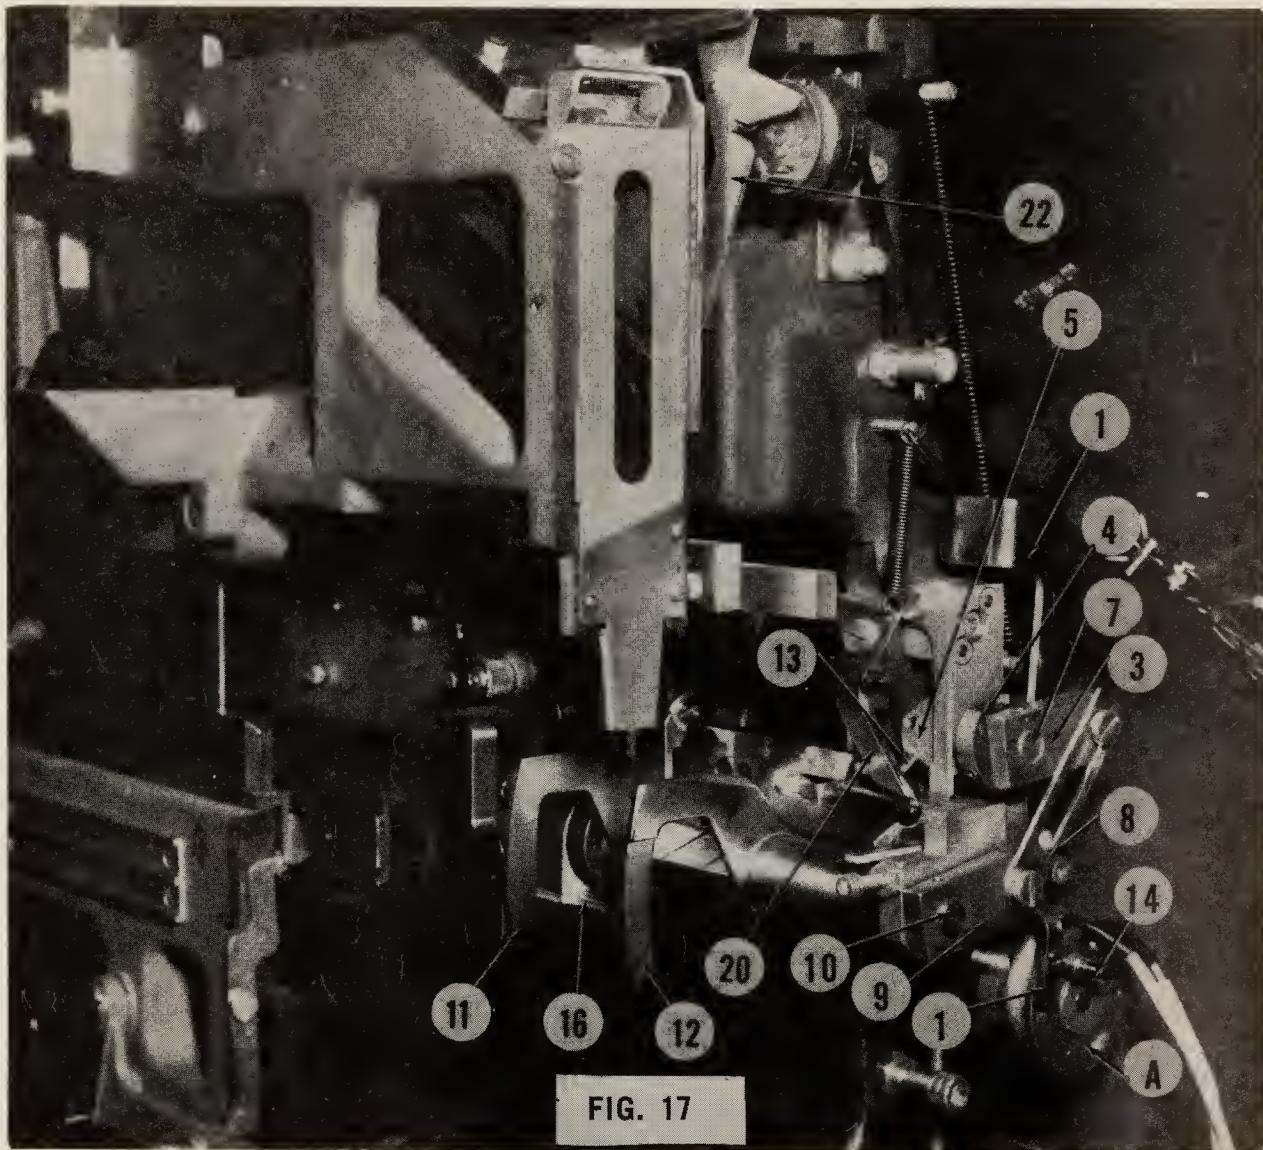

FIG. 17
has slotted holes for this purpose. On Elektrons which are equipped with the Spaceband Lockout Lever, as shown at (22), Fig. 17, this adjustment is a permanent setting made at the factory.
2. The spaceband pawl (A) should be adjusted laterally so that it is .020 - .030" inside of the spaceband rail (B). This is to insure that the pawl will contact the bottom of the ear of the spaceband slide to raise the spaceband over the spaceband rails.
When solenoid L-11 is energized, its actuating pin (14) forces the lower end of release lever (1) forward. Release lever (1) has a cut-out above its pivoting point which fits in a notch in the rear of collar (4) to hold the collar and shaft assembled against the pressure of spring (2). The notch in collar (4) can be seen at the top of the collar in Figure 17. When release lever is actuated by solenoid L-11, collar (4) is released and spring (2) pulls the rear of lever (5) upward which rotates shaft (7) with its collar and levers. In normal position, release lever (1) is held in contact with collar (4) by a small spring fastened to the lower end of the release lever.
The rotation of the shaft through link (8) attached to lever (9) at the right-hand end of the square shaft (10), pivots the square shaft. Since the No. 2 and 3 fingers (11) and (12) pivot with the square shaft, they pivot down into position behind the last matrix in the assembled line. This is shown in Figure 17, where the No. 2 finger is shown as it moves away from the No. 3 finger as the line is delivered.
Near the completion of the downward movement of the No. 2 and 3 fingers, pin (13) in lever (5), contacts delivery latch (20) (Figure 17), forcing the left hand side of the latch upward to release the delivery slide latch which is attached to the delivery slide casting. The delivery lever spring then causes the delivery lever to move the delivery slide with the assembled line of matrices between the No. 1 and No. 2 fingers to the left, to deliver the line into the first elevator jaw, leaving the No. 3 finger for the matrices in the next line to assemble against.